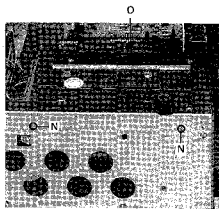

Fig. 2.9
2.11 Removing the power supply (Fig. 2.9)
- Unfasten two screws (N) on the side wall.